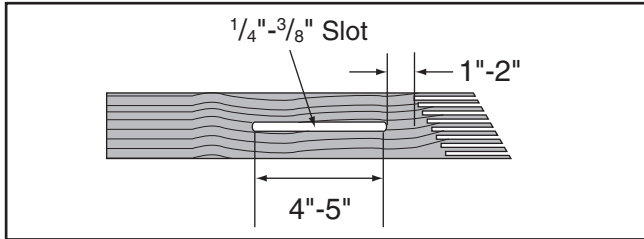

Figure 72. Slot routed in featherboard.
- Rout a $\frac{1}{4}$ "- $\frac{3}{8}$ " wide slot 4"-5" long in the workpiece and 1"-2" from the short end of the featherboard (see **Figure 72**).